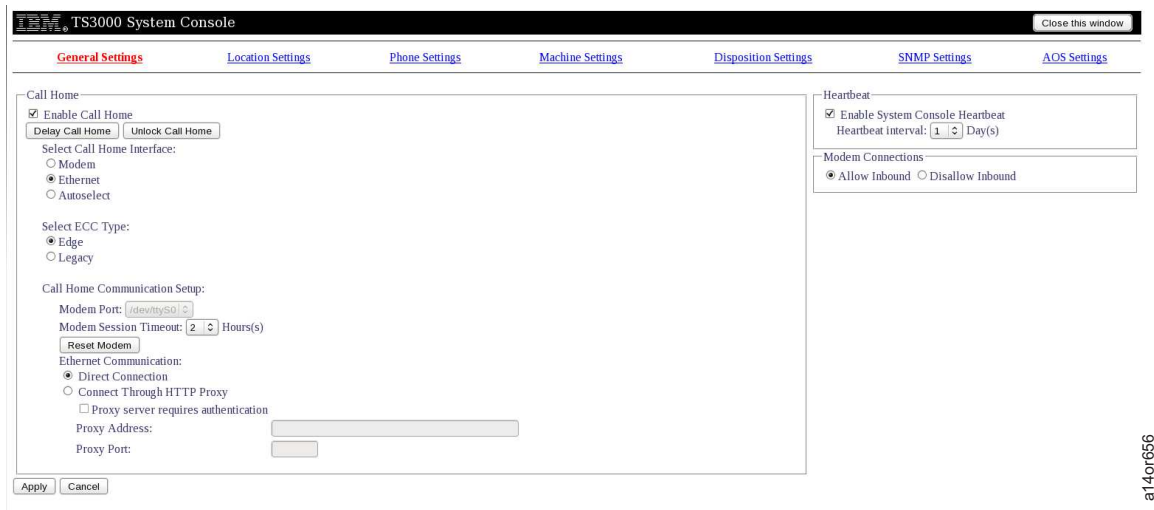

Figure 110. General Settings Screen (Call Home and Heartbeat)
5. Select **Call Home Settings**. You see the screen that is shown in Figure 110 on page 88.
6. Select an interface to be used for call home. See Figure 110.